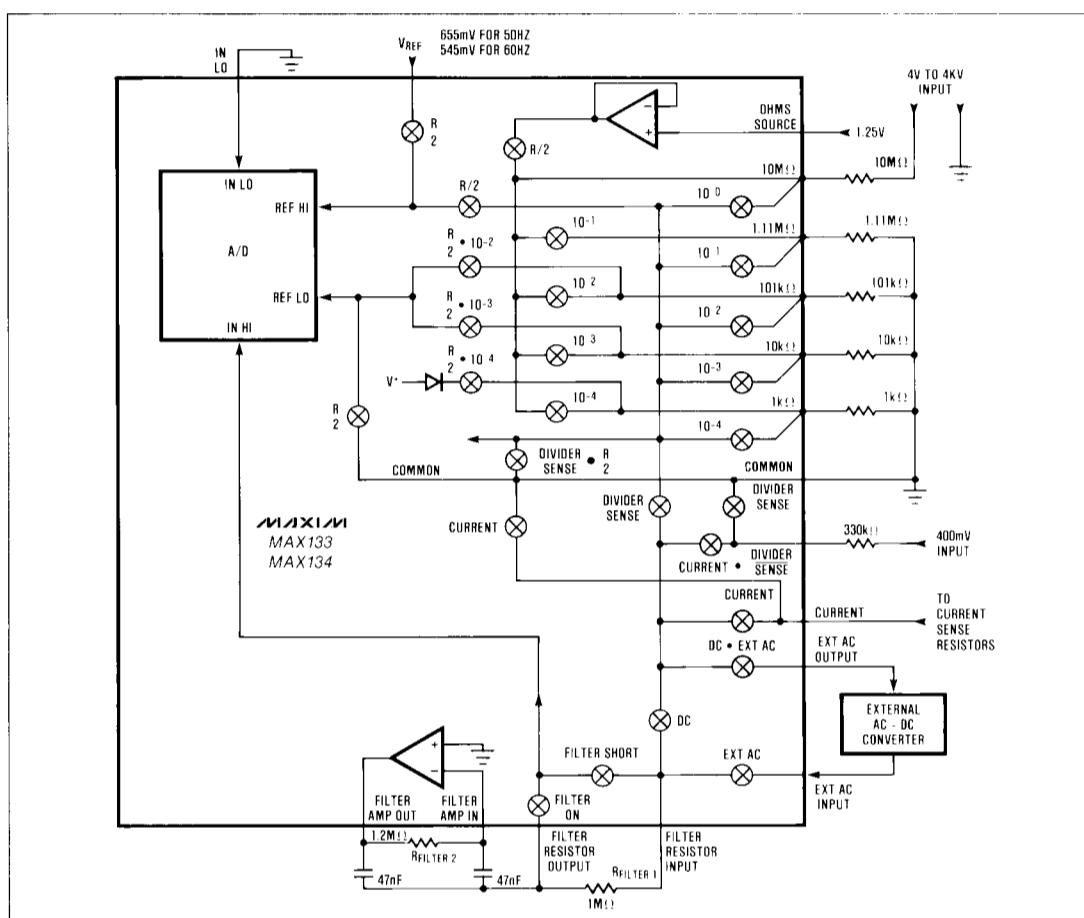

Figure 1. MAX133/134 Input Section
In voltage measurement ranges other than 400mV, voltages are applied to the pin labeled  $10M\Omega$  through a  $10M\Omega$  resistor. By selecting the proper shunt resistors ( $1.1M\Omega$  through  $1K\Omega$ ) the input voltage will be attenuated to a 400mV range. The input attenuator switch section includes analog switches to switch both the input current and to sense the voltage on the shunt resistor. Other input switching functions select between the output of the input attenuator and the voltage developed across the current sensing resistors during current measurement. See Figure 1.
**Filter On and Filter Short.** These bits control the active filter. See Figures 1 and 3.